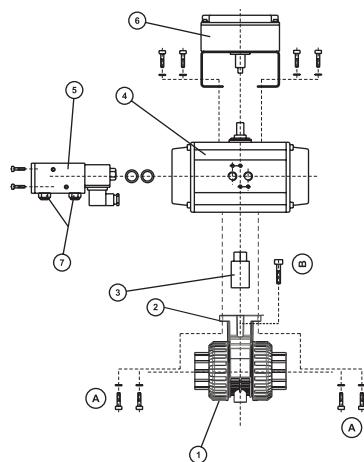

Fig. 19
- Remove the screws (B, Fig. 19).
- Separate the pneumatic actuator (4) with the mounting clamp (2) from the bare shaft valve (Fig. 19).
- Remove the screws (A) in order to dismantle the actuator from the mounting clamp.
- In the case that the actuator needs to be replaced by a handle, also remove the coupling bush (3, Fig.19).